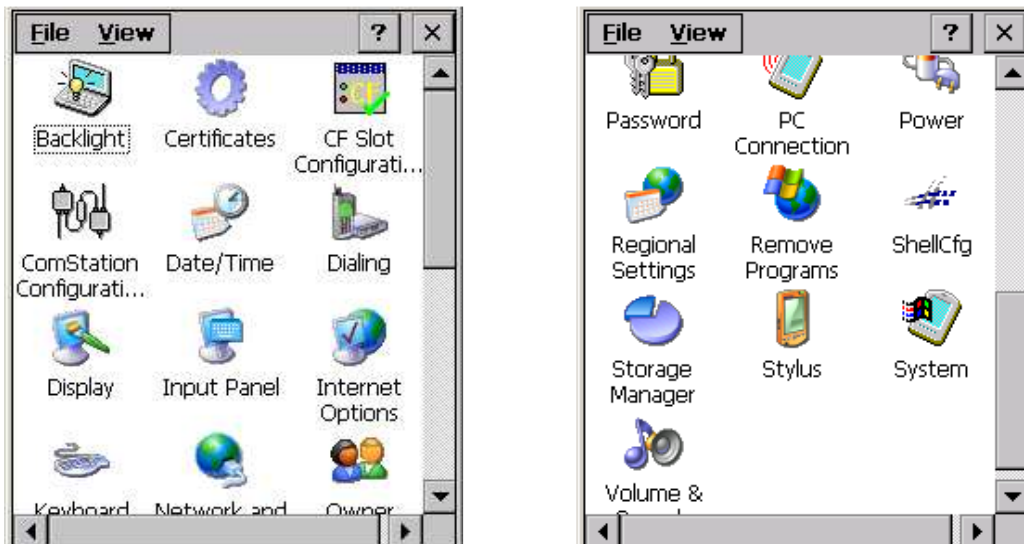

Fig. 7: Control Panel
*The **Control Panel** menu appears (see Fig. 7).*